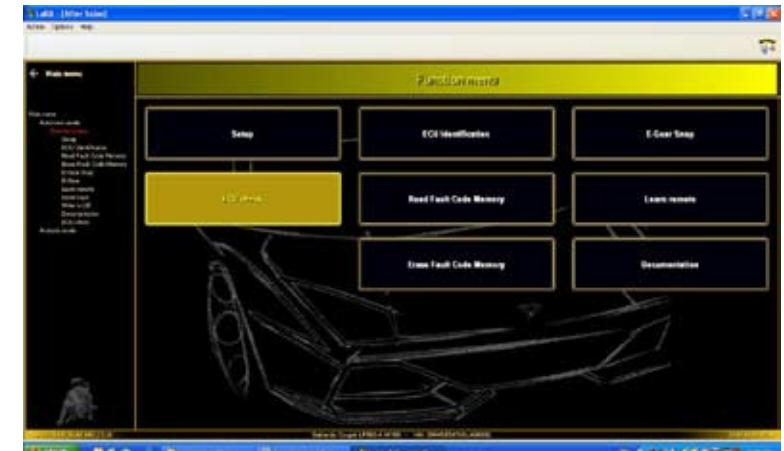

Fig.115
1. Select “ECU check” (Fig.115) from the “Menu Functions” screen (Automatic mode).